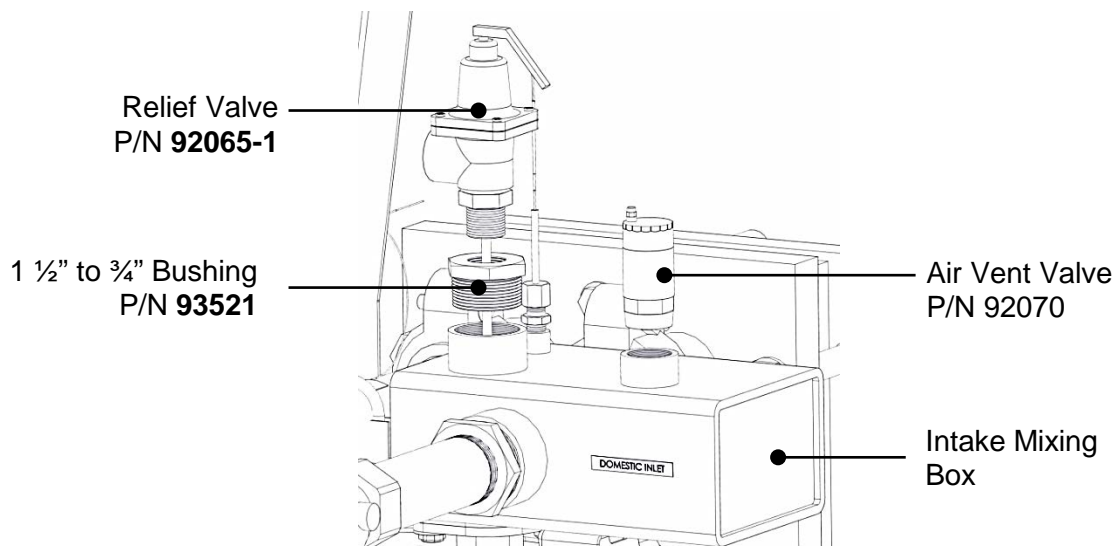

Figure 2-9. Relief Valve and Air Vent Valve Installation – 150 PSI – Exploded
1. If you have a 150 PSI unit, install the parts as shown in Figure 2-9.